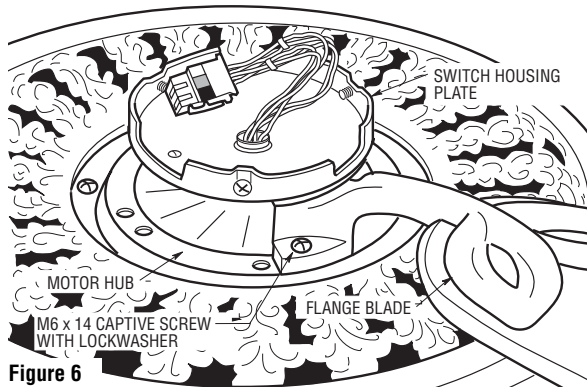

Figure 6
- 10. Loosely attach one blade assembly to the motor hub using two M6 x 14 captive screws with lockwashers (Figure 6). Make sure the screws are **NOT** tightened. Repeat this procedure for the other four blade assemblies.